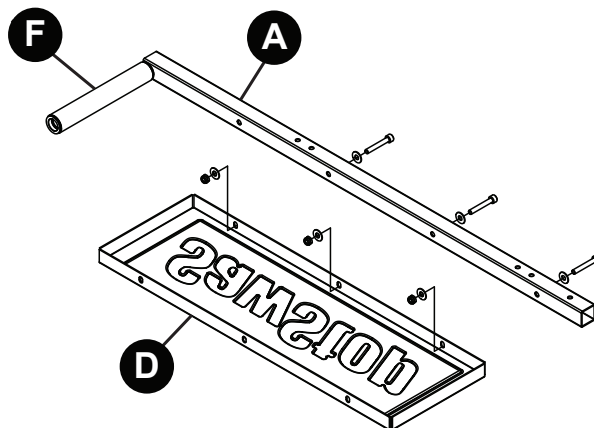

Fig. 4
- 3 Place the insert table (D) between the table tubes (A), with the text on the bottom, so the three mounting holes in the side of the insert table line up with the three insert table mounting holes in the table tube attached to the large table roller (see Fig. 4).